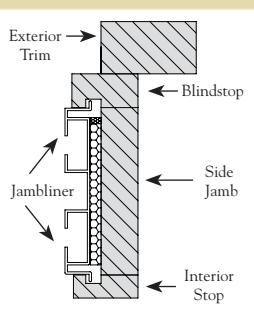

Figure 1a - Top View
2. Raise or remove the sash to take the measurements. You may also need to remove the jamb liners if the side jambs are not visible (Figure 1a).